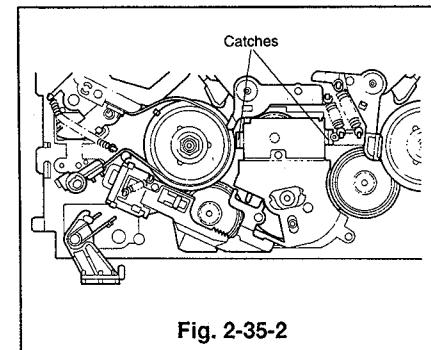

Fig. 2-35-2
- ② Remove the two screws (Ⓐ and Ⓠ) holding the reel idler assembly.
- ③ Unfasten the two catches shown in Fig. 2-35-2 and push the reel idler assembly to remove it, with the deck right side up.